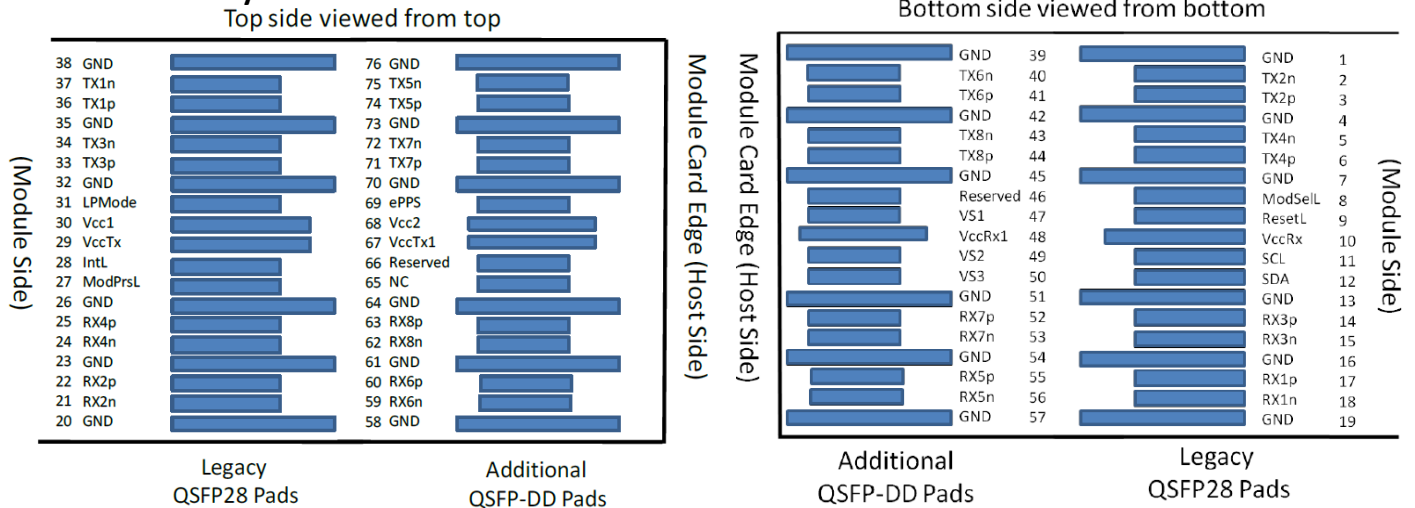

Figure 3 : Module Pad Layout
4. Plug Sequence specifies the mating sequence of the host connector and module. The sequence is 1A, 2A, 3A, 1B, 2B, 3B. (see Figure 3 for pad locations) Contact sequence A will make, then break contact with additional QSFP-DD pads. Sequence 1A, 1B will then occur simultaneously, followed by 2A, 2B, followed by 3A, 3B.